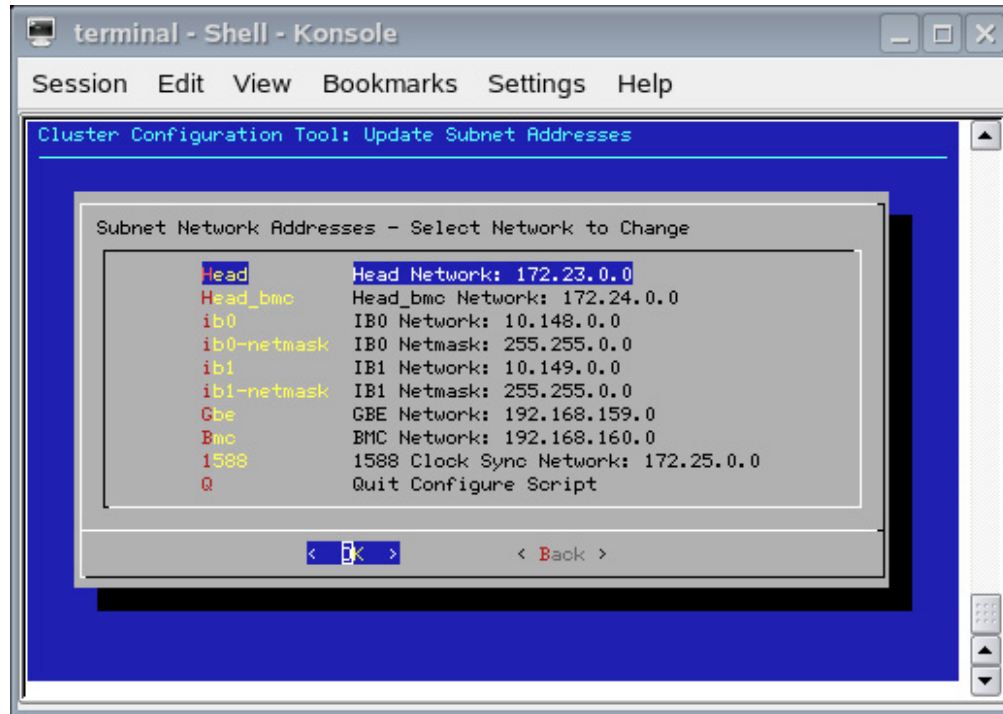

Figure 2-17 Update Subnet Addresses Screen
29. The **Update Subnet Addresses** screen appears, as shown in Figure 2-17 on page 45.